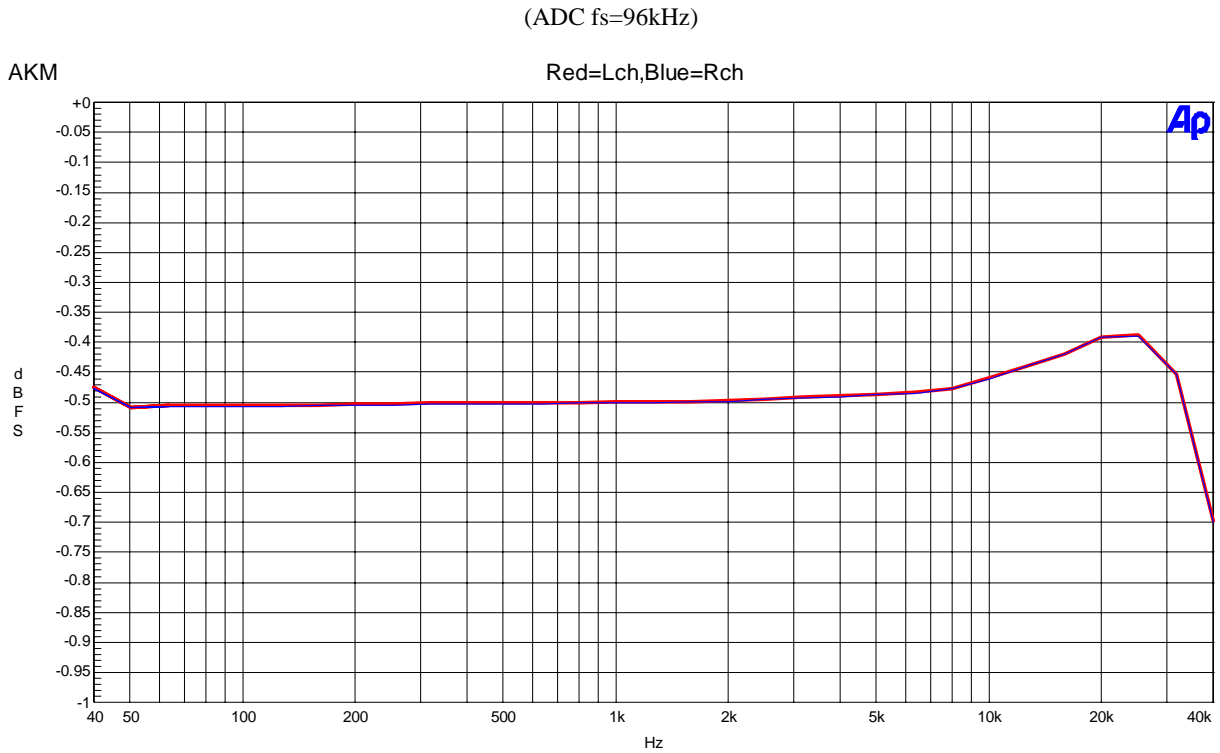

Figure 22. Frequency Response (including input RC filter) (Input Level=-0.5dBFS)
- Figure 22. Cross-talk (Input Level=0dBFS)